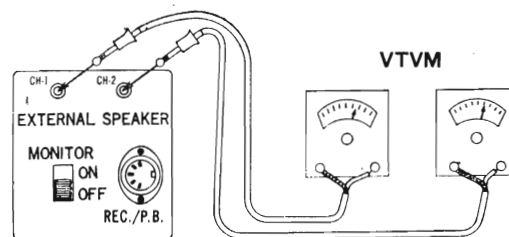

Fig.17
b) Place the monitor switch (MONITOR) of the set to ON position, and turn the volume control knob (VOLUME: CH-1 or CH-2) completely to the right (clockwise) to gain maximum volume. Then connect the V.T.V.M. (vacuum tube voltmeter) to the speaker terminal as shown in Fig.17. Adjust the output of the low-frequency oscillator so that the